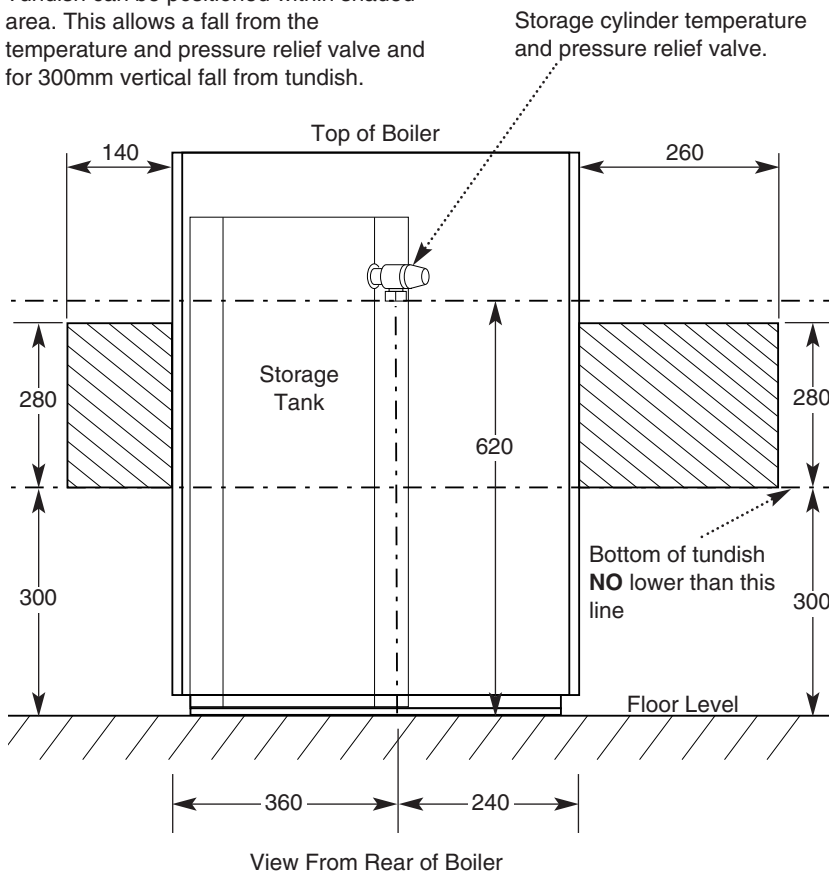

Fig. 33
8.7 Positioning the Tundish (Fig. 33)
5. The tundish can be positioned in the shaded areas as shown in Fig. 33. Refer also to the instructions supplied with the Unvented Kit and Building Regulations Document G3.